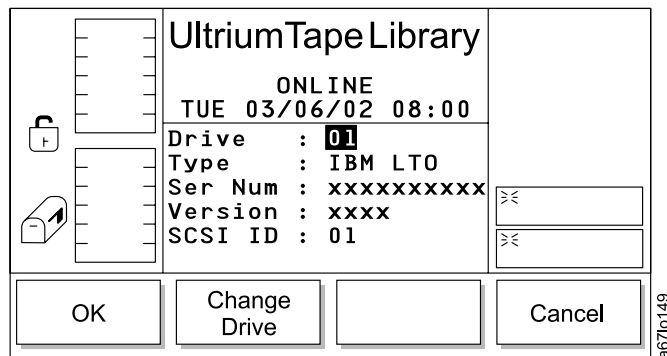

Figure 67. Drives Dialog
- To view the level of firmware currently loaded on a drive, select **Status** → **Drives**. The Drives Dialog displays (see Figure 67).